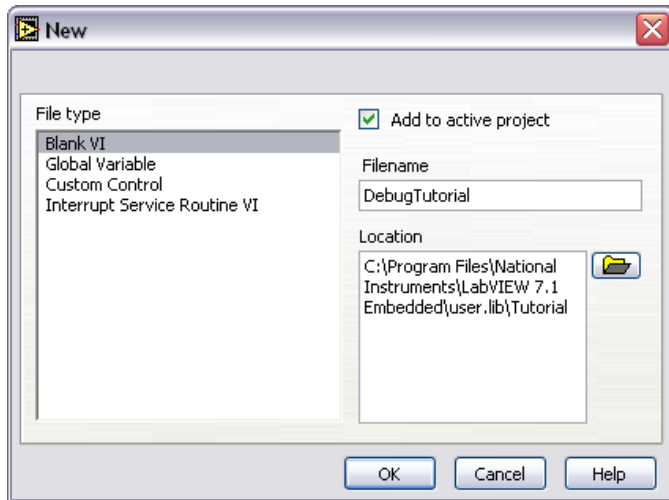

Figure 7. Adding a Blank VI to the Embedded Project
3. Enter `DebugTutorial` in the **Filename** text box as shown in Figure 7.